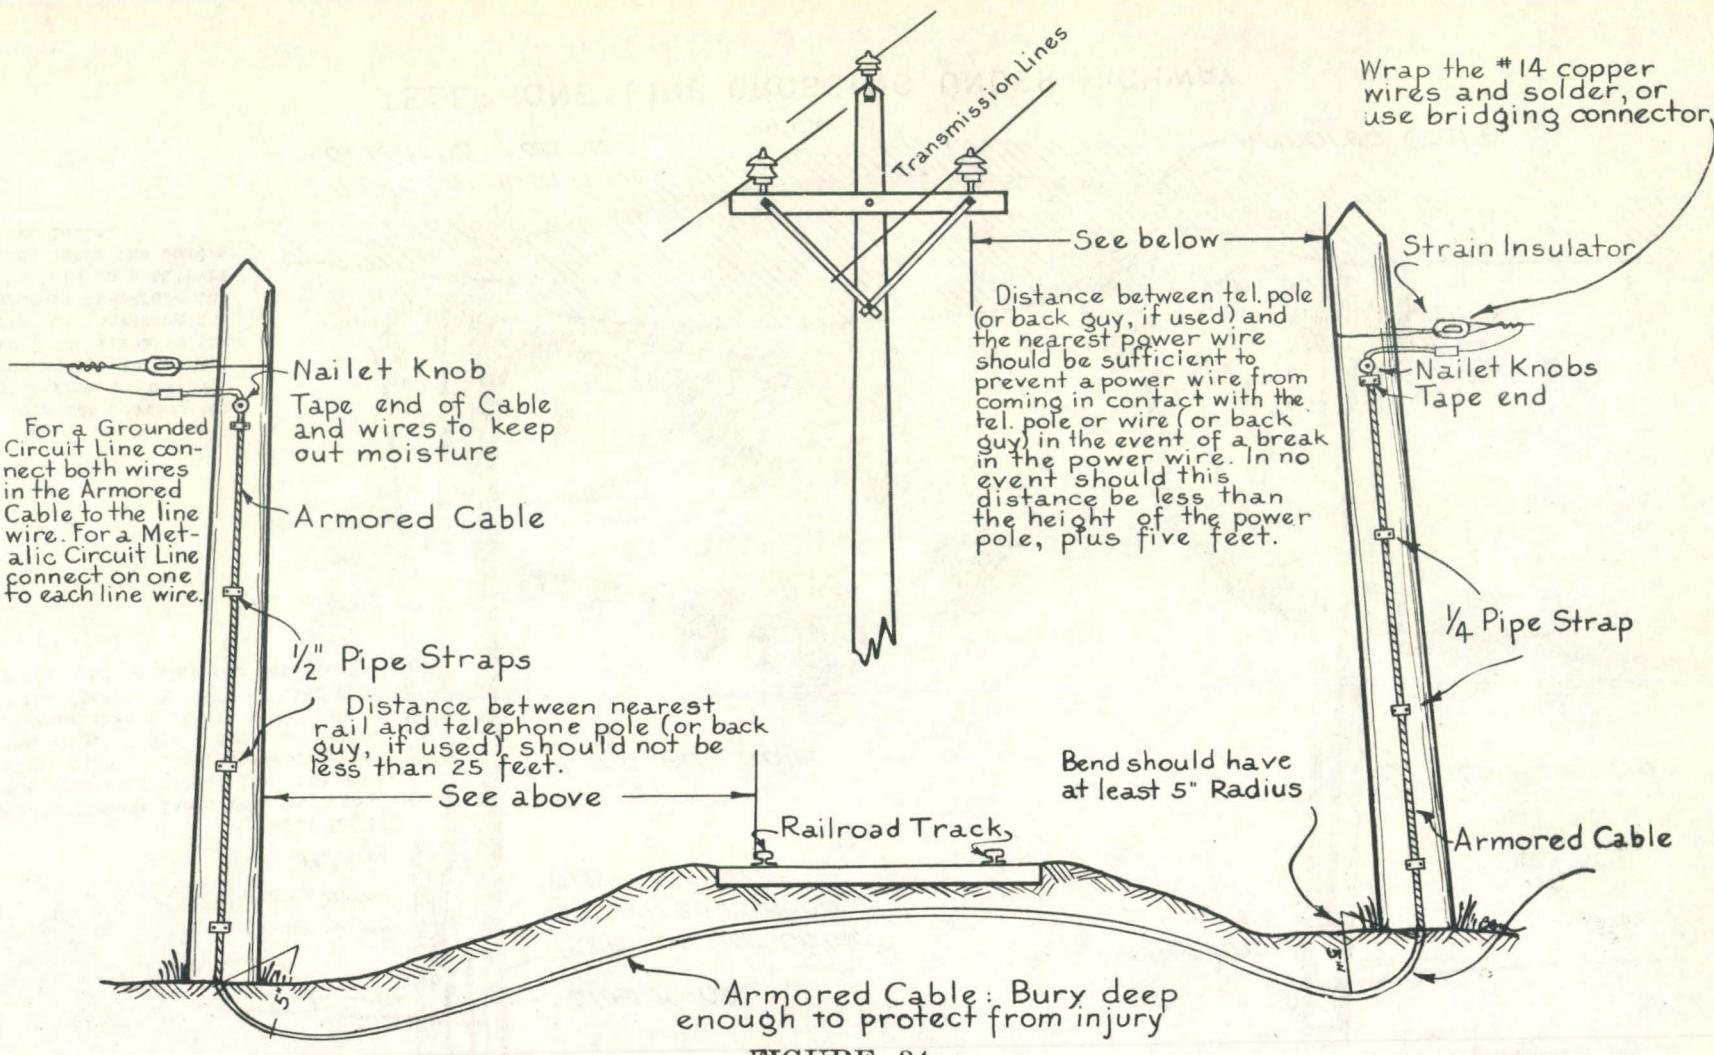

FIGURE 34
2. Railroad: A crossing with a railroad right of way must be made as required by the railroad company and in compliance with the State laws. They should ordinarily be made underground as shown in Figure 34. In no event should a guy or pole be set closer than 25 feet to the center of the track.
3. Electric Power Lines: If the power line is properly constructed and carries not to exceed 7500 volts, the crossing may be aerial with the telephone line at least 6 feet below the wires. Where the power line voltage is from 7500 to 25,000 volts, an underground crossing is preferable, made according to Figure 34. If an underground crossing is not practicable, an aerial crossing may be made with the telephone line at least 9 feet below the power line. Where the power line voltage is in excess of 25,000 volts, the crossing must be made underground in all cases unless otherwise specified by the Regional Forester.